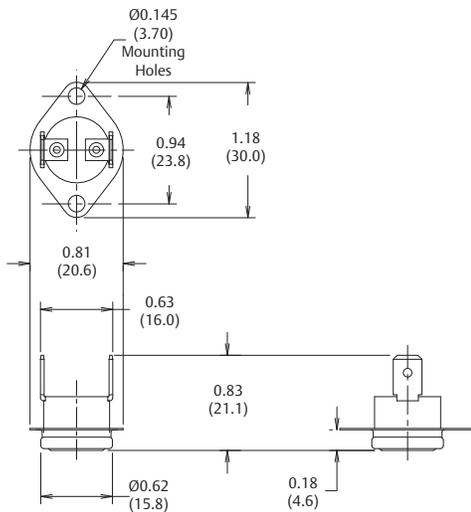

**Figure 2**
**Surface Mount Bracket** – The bimetal disc sensing element is positioned firmly against the mounting surface so it senses the actual mounting surface temperature (see Figure 2). There are many available surface mounting brackets available – typically in either aluminum or stainless steel.